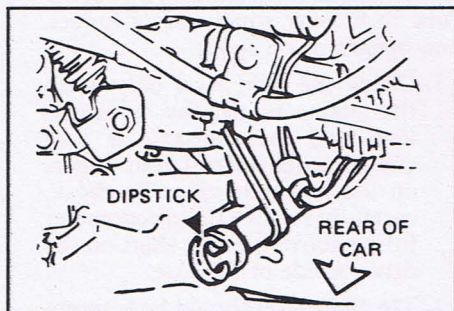

Figure 1 - Rear of engine (top view)
- Remove the dipstick located at the rear of the engine compartment. See Figure 1. Carefully touch the wet end of the dipstick to find out if the fluid is at least room temperature. If it feels cold, replace the dipstick and drive the car for at least five miles before checking again. If the fluid is at room temperature or hotter, clean the dipstick and push it back in until the cap seats. Pull out the dipstick and read the fluid level. The level should be in the cross-hatched area on the dipstick.